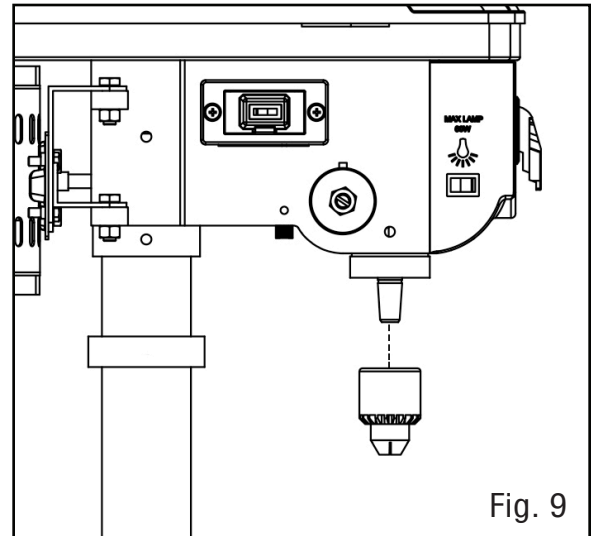

Fig. 9
5. Retract the jaws of the chuck all the way into the body. Slide the chuck's socket onto the spindle. See Fig. 9.